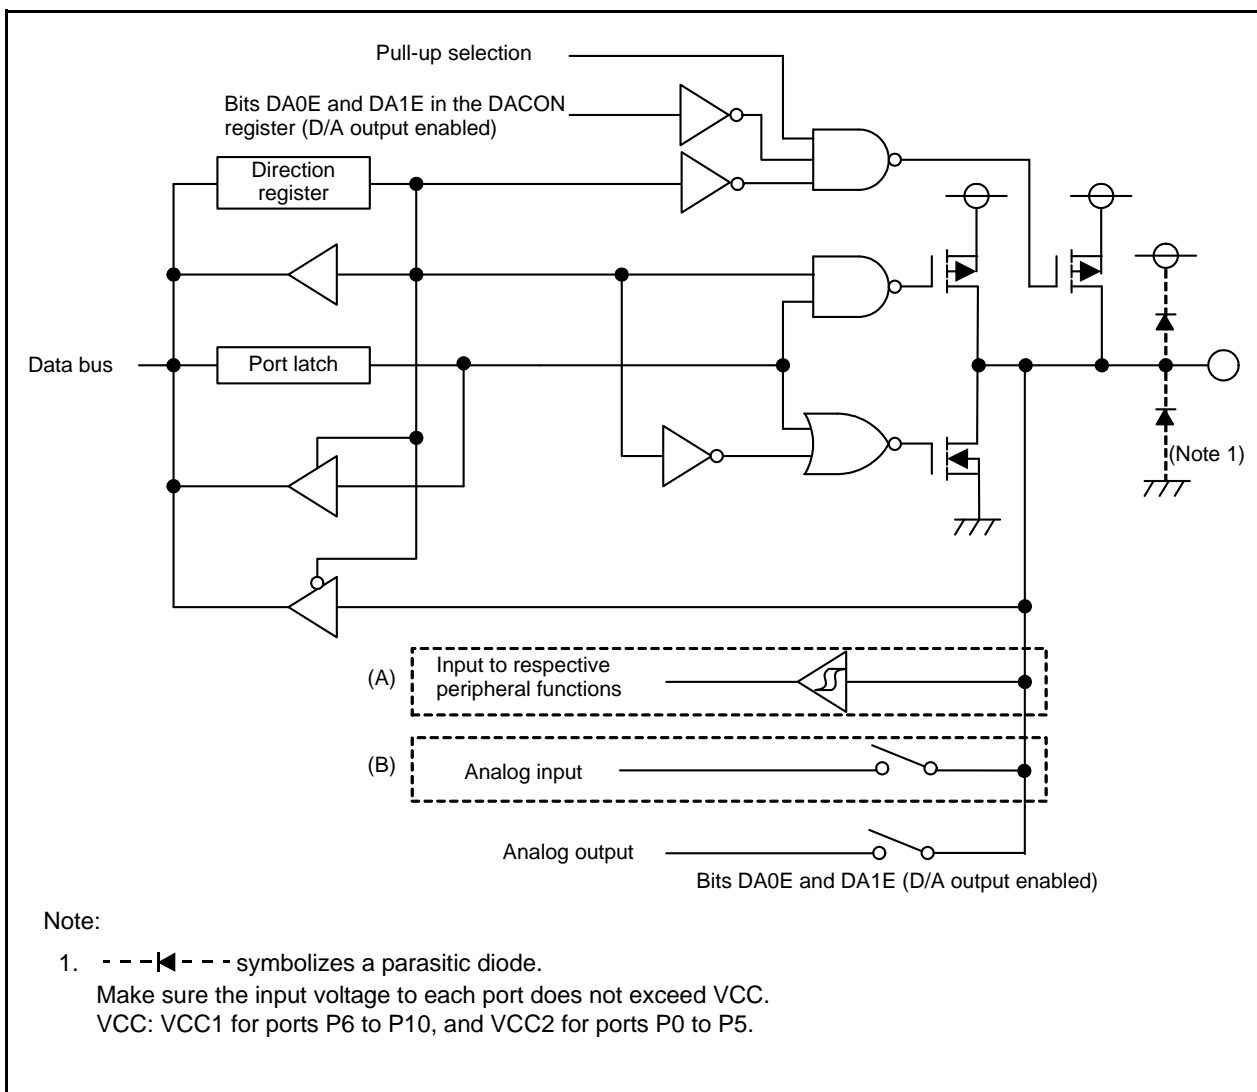

Figure 13.8 I/O Ports (D/A)
Peripheral function input (A) in Figure 13.8	Analog input (B) in Figure 13.8